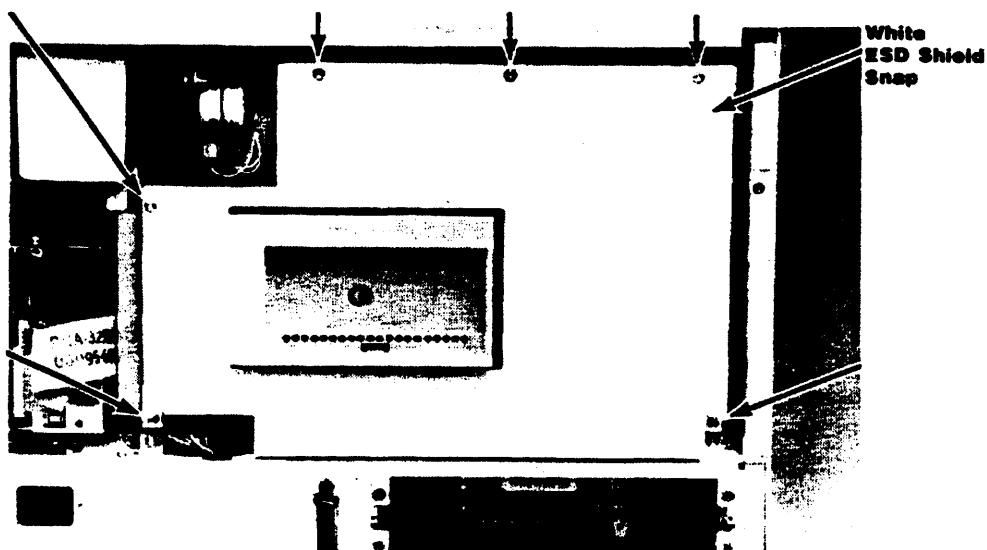

Figure 6-3. Logic A Shield Screws
2. Remove the back case (refer to section 6.5). Unsnap the white button on the clear ESD shield in the upper right-hand corner (see figure 6-3).
3. Remove the six shield screws and the logic A shield (see figure 6-3).
1. Remove the back case (refer to section 6.5). Unsnap the white button on the clear ESD shield in the upper right-hand corner (see figure 6-3).
2. Remove the six screws holding the logic A shield (see figure 6-3) and remove the shield. (Leave the logic A PCA in place.)
3. Remove the back case of the computer (refer to section 6.5). Unsnap the white button on the clear ESD shield in the upper right-hand corner (see figure 6-3).
4. Remove the six screws holding the logic A shield (see figure 6-3) and remove the shield. (Leave the logic A PCA in place.)